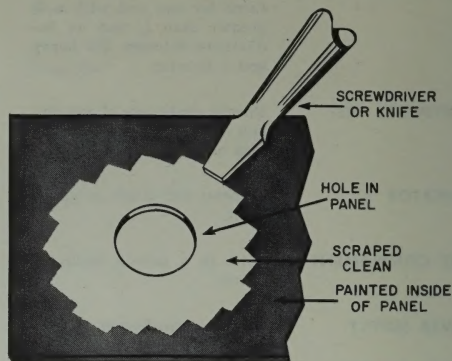

FIGURE 3. HOW TO SCRAPE PAINT
- ☐ On the rear of the front panel, around the hole marked GROUND, scrape off the paint as shown in Figure 3.